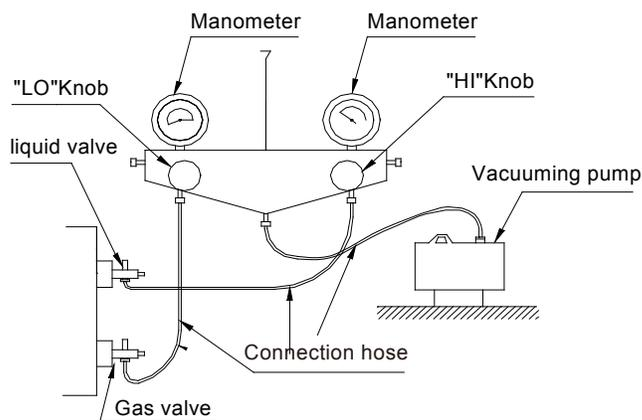

Fig 10
- (1) Refrigerant has been charged into the outdoor unit before shipment, though additional refrigerant may still need be charged into the refrigerant pipe during the field installation.
- (2) Check that the liquid valve and the gas valve of the outdoor unit are closed fully.
- (3) As shown in the following figure (Fig.10), evacuate the indoor unit and refrigerant pipe using a vacuum pump.